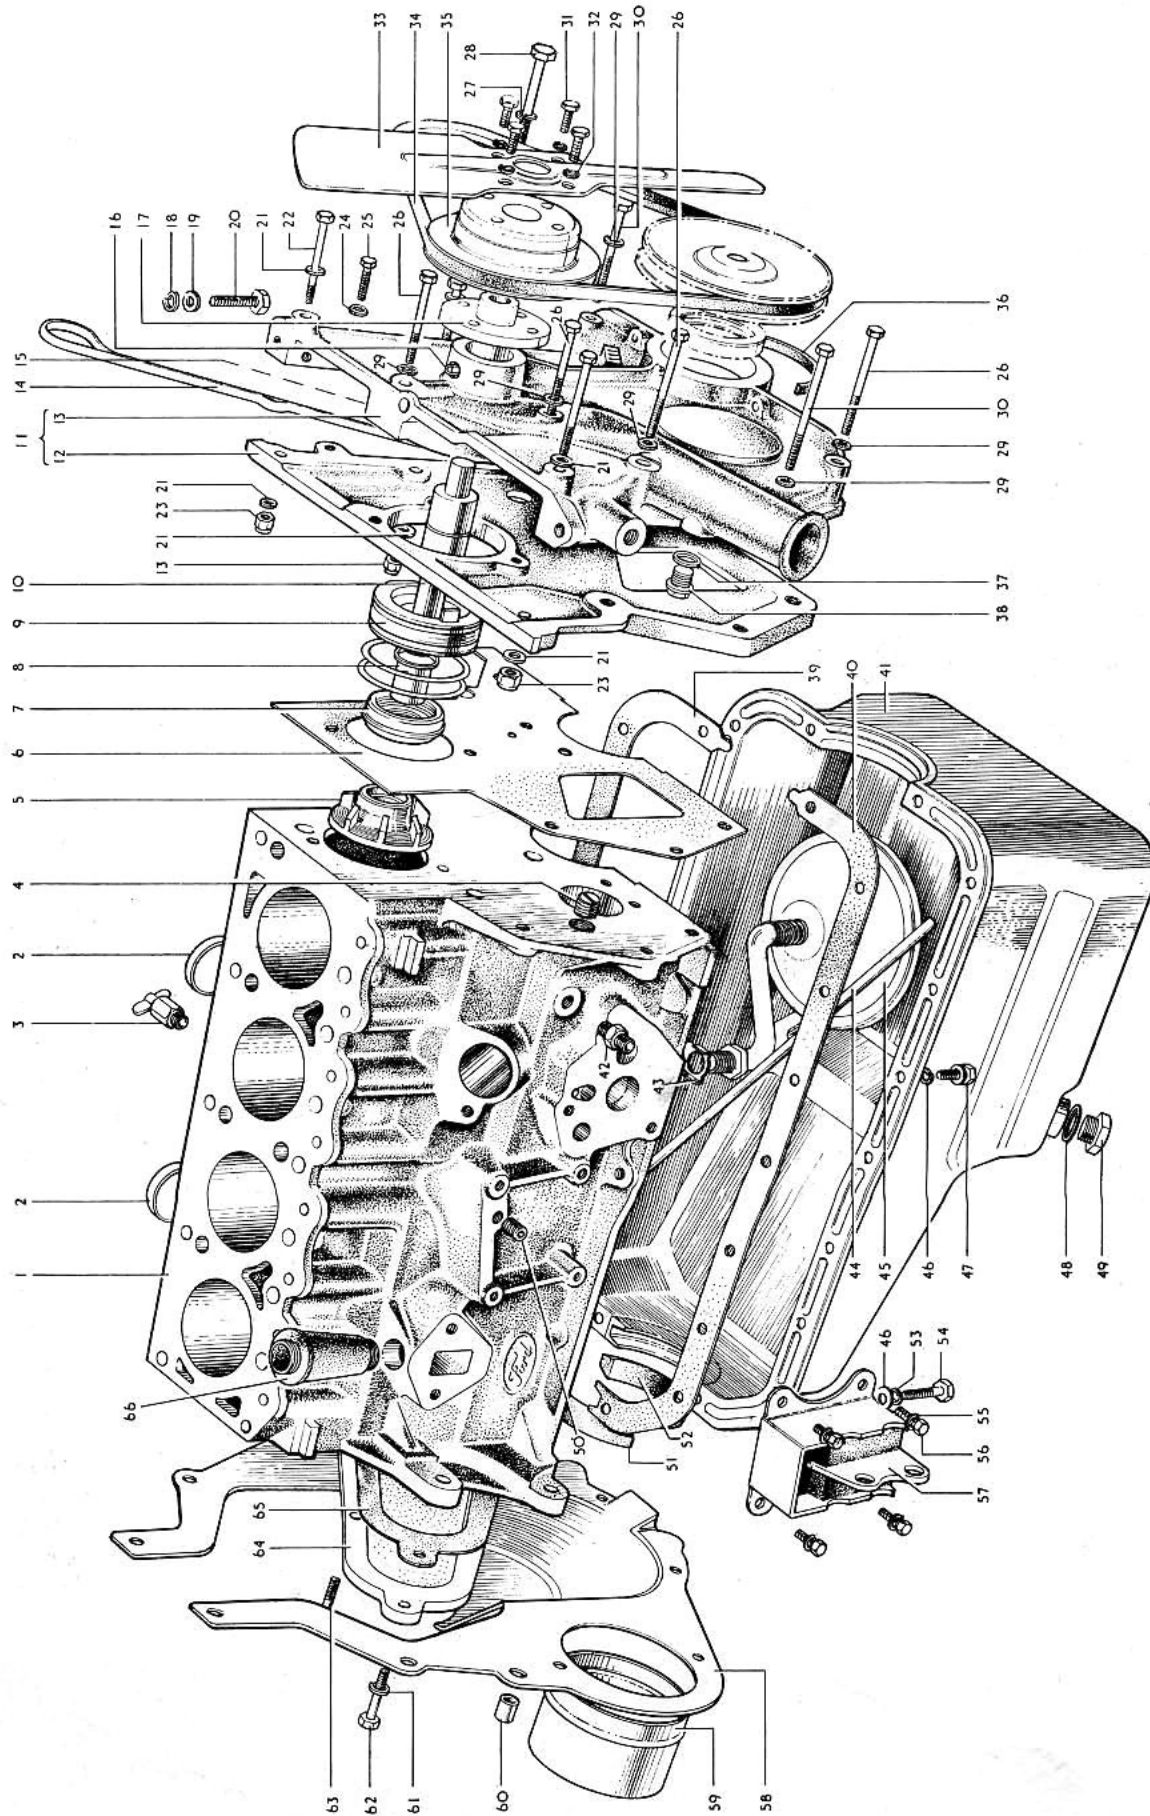

Fig. 8—CYLINDER BLOCK AND WATER PUMP COMPONENTS
Remove the cylinder head to timing case clamp bolt (item 11 fig. 5) and the two smaller $\frac{5}{16}$ in. clamping bolts (item 14 fig. 5) and (item 20 fig. 8).